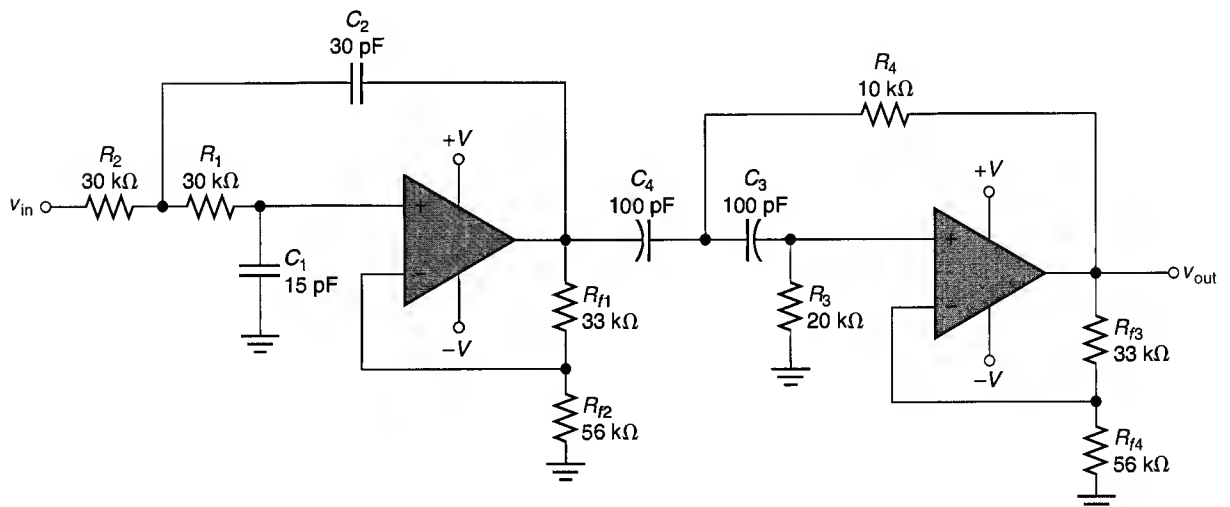

FIGURE 17.50
15. Calculate the values of f_{C1} , f_{C2} , bandwidth, geometric center frequency, and Q for the band-pass filter in Figure 17.50.